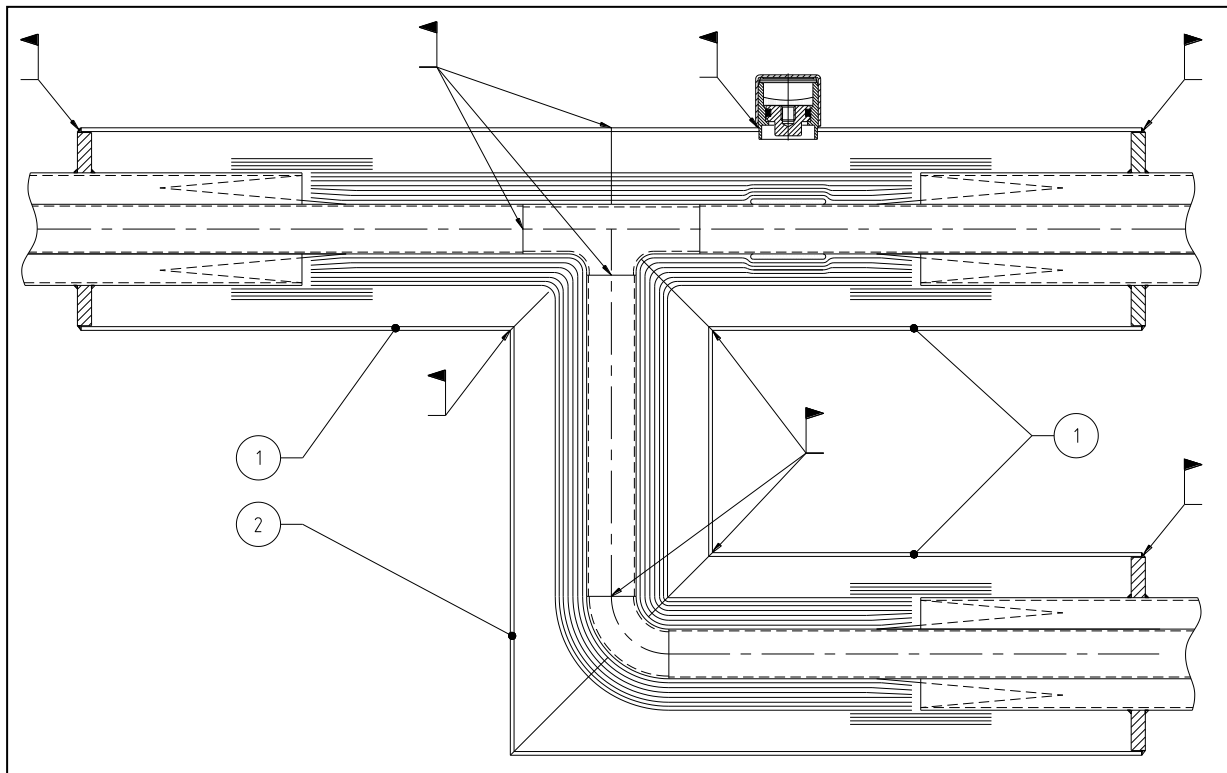

figure 6; *Welded T-coupling*
Position the three pipe section on the supports. Slide the three jackets (Fig.6, pos.1) around each section of the pipe and check the length of each part. Shorten the inner pipe and jacket if necessary and weld the inner pipe together.
The remaining vacuum jacket (Fig.6, Pos.2) is carried out as two half shells. These shells are mounted and welded when the vacuum jackets at the welding rings are welded according step 8 of the straight welded coupling